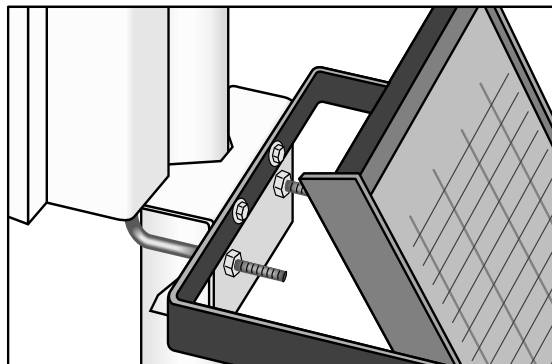

FIGURE 3.1-2. Solar Panel Mounting
- a) Mount the solar panel to the tower using the mounting brackets as shown in Figure 3.1-2. Mount the solar panel to the tower so it faces south (northern hemisphere). Position it as high off the ground as practical, ensuring it cannot interfere with air flow or sunlight around the sensors.